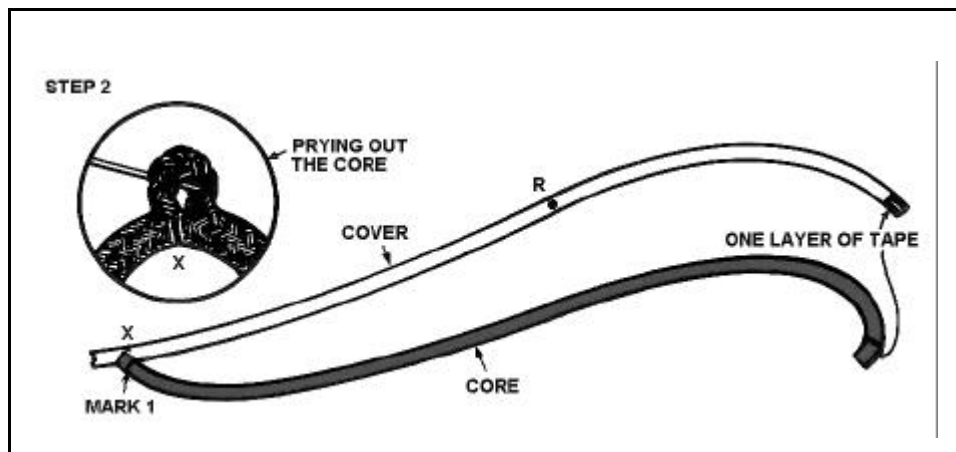

Figure 12-53. Extracting the Core (Step 2)
- STEP 2 -- Extract the core.** Bend the line sharply at point X. With the pusher or any sharp tool such as an ice pick, an awl, or a marlinespike, spread the cover strands to expose the core. Pry and then pull the core completely out of the cover from point X to the taped end of the line. Put one layer only of tape on end of the core (see Figure 12-53).